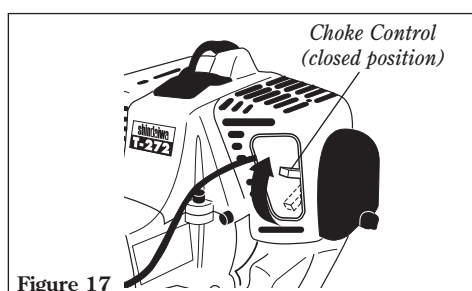

Figure 17
4. Set the choke lever to the CLOSED position if engine is cold. See Figure 17.